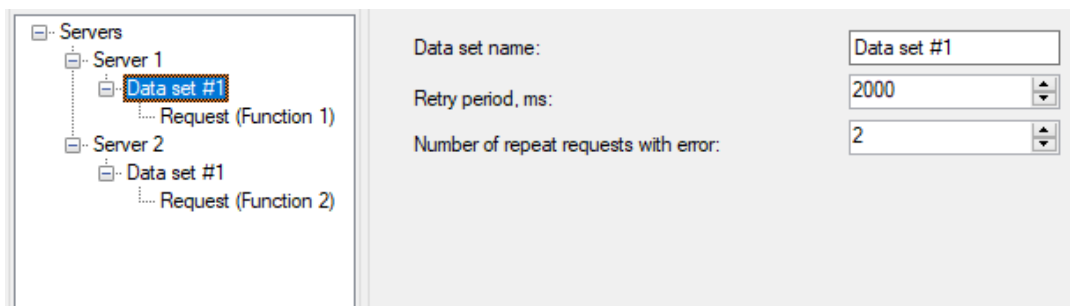

Figure 236 – Data set
c) Data set – logically grouped data obtained when interrogating devices. When a data set is selected, parameters of the data set are displayed in the right part of the window (figure 236). A data set can be added or deleted via context menu of the tree;